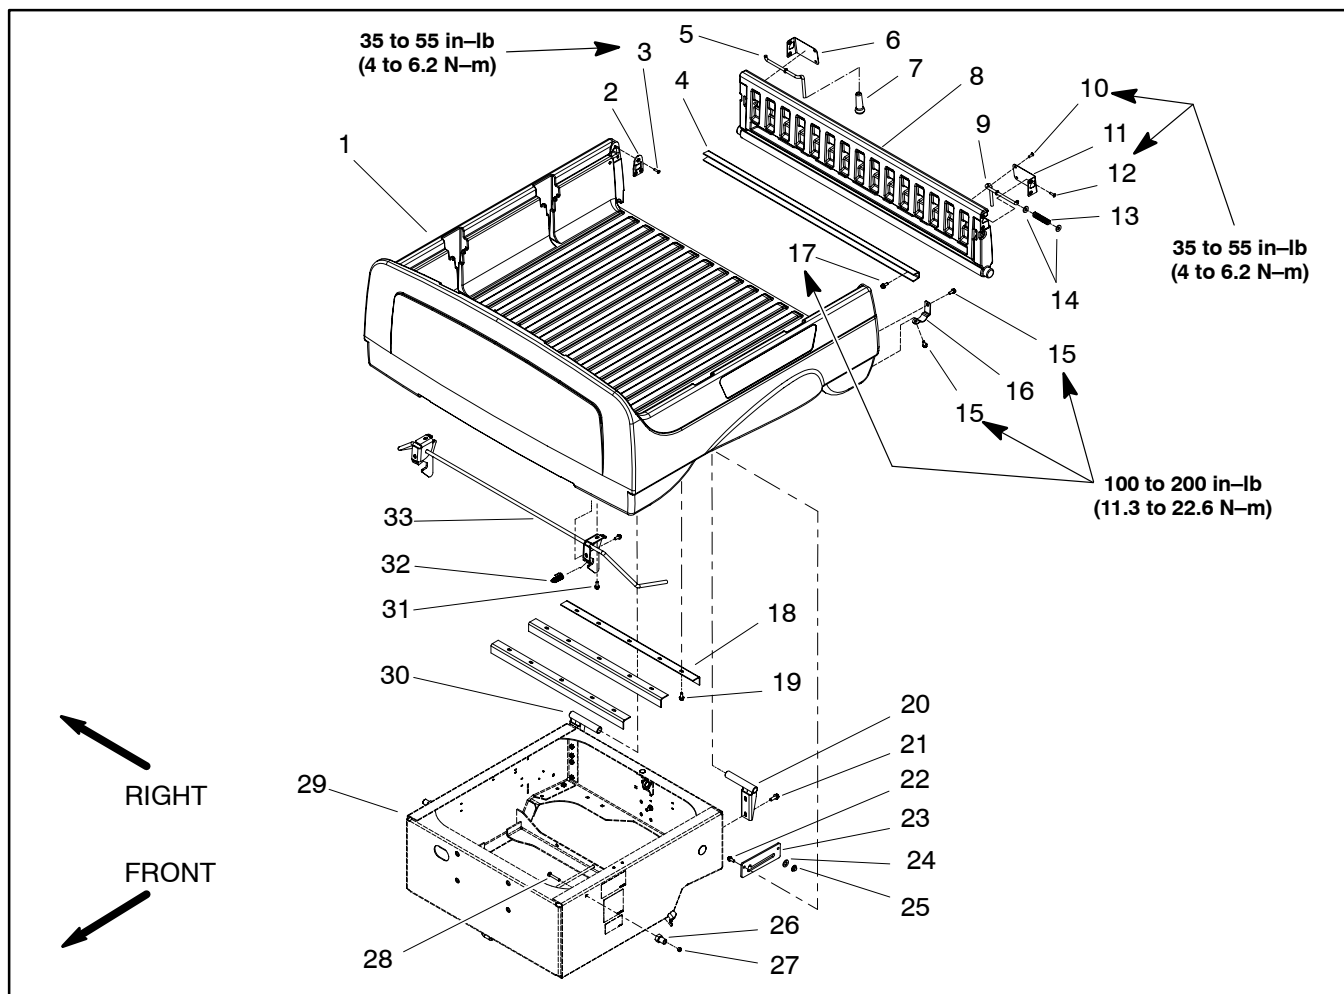

Figure 16
Removal (Fig. 16)
2. Remove two (2) flange head screws (item 21) that secure RH and LH pivot brackets (items 30 and 20) to the rear frame.
3. Release latch rod (item 33) from the latch pins (item 26). Remove cargo bed from the frame. Disassemble cargo bed as necessary using Figure 16 as a guide.
Installation (Fig. 16)
1. Reassemble cargo bed using Figure 16 as a guide.
2. Position cargo bed to the frame locking the latch rod (item 33) to the latch pins (item 26).
3. Secure both pivot brackets (items 30 and 20) to the rear frame with flange head screws (item 21).